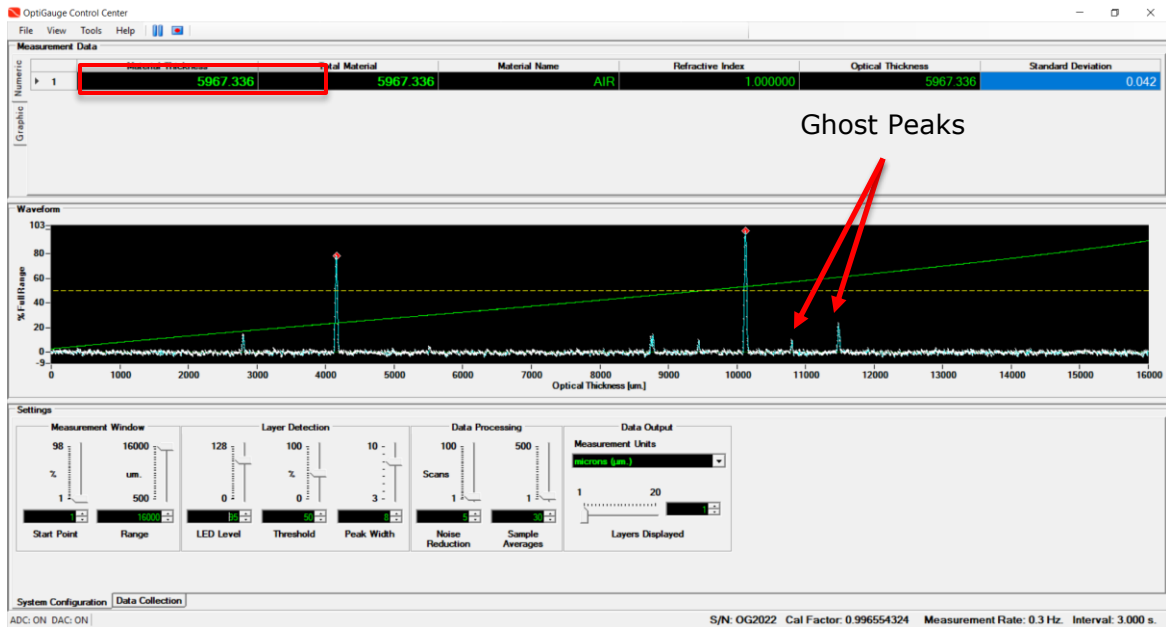
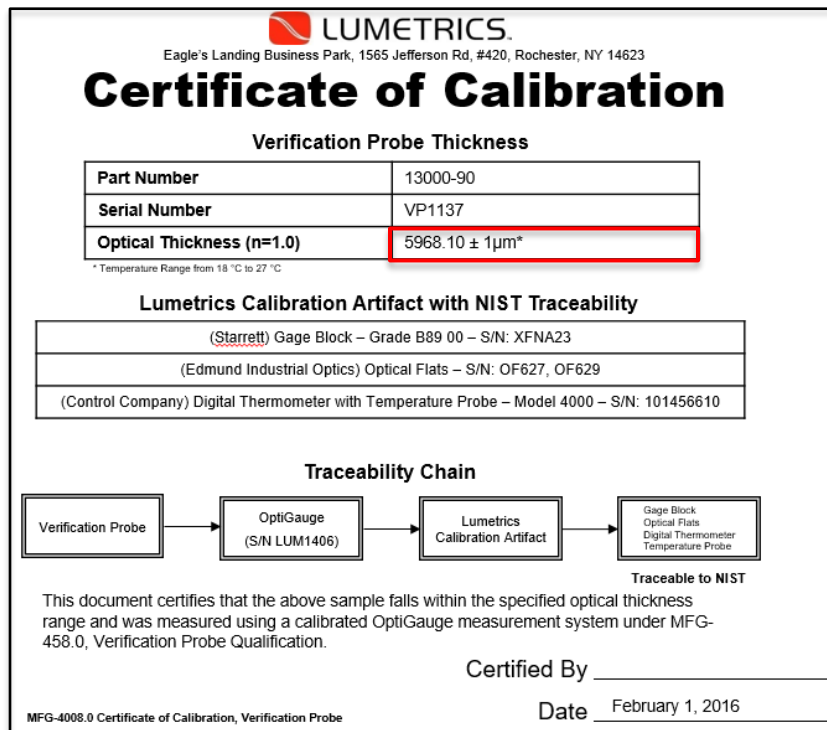

Figure 1: Example of how OCC should appear when configured to measure a verification probe
Figure 2: Example of verification probe certificate
- a. Using the recommended LED Level value, ghost peaks may appear on the waveform graph (indicated in figure 1). Raise the threshold to only include the two tallest peaks and ignore the ghost peaks.
8. Compare thickness value in OCC (highlighted in red in figure 1) to the thickness value on verification probe certificate (highlighted in red in figure 2).